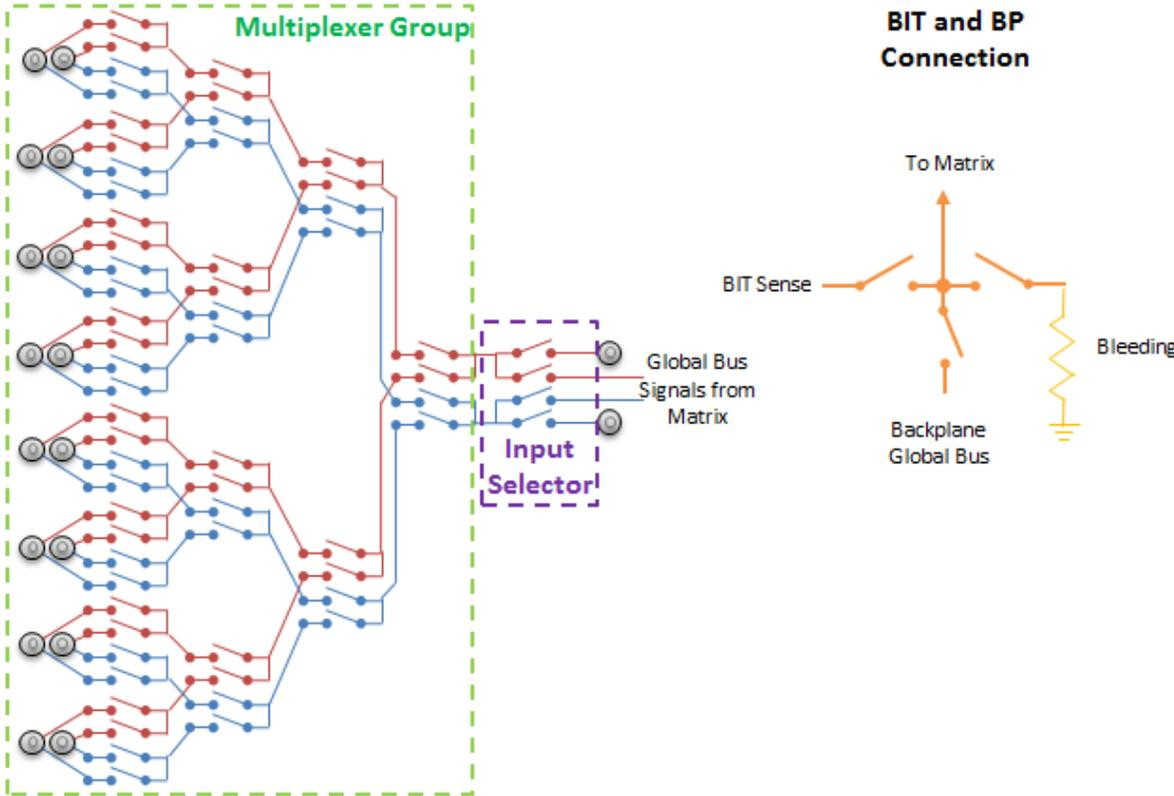

Figure 2-13: Schematic Diagram for Switching Blocks
- The input selector is integrated in the mux group and it selects for each group the source of each input – input connector or global bus. Figure 2-13 includes a logic schematic of an input selector.
- The BIT and BP connection connects the global bus signals from the backplane to the matrix. By selecting the global bus as input to the mux group BIT can be performed on the mux relays' contacts. Figure 2-13 includes a logic schematic of one signal in the BIT and BP connection.